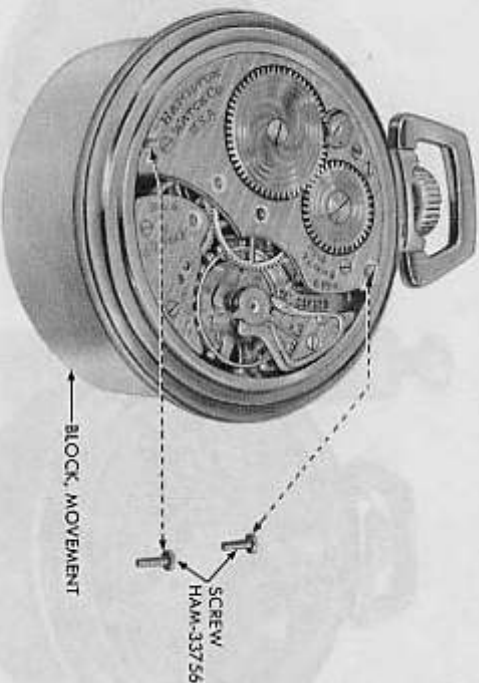

Figure 53 — Hamilton Pocket Watch — Case Screws Removed
- f. **Remove Case Screws.** Place watch on a movement block of proper size with train side up and remove the two case screws (fig. 53).
o. Replace Case Screws (fig. 53). Replace case screws and secure. Before tightening case screws, make sure that movement is centered and no binding exists in the stem.